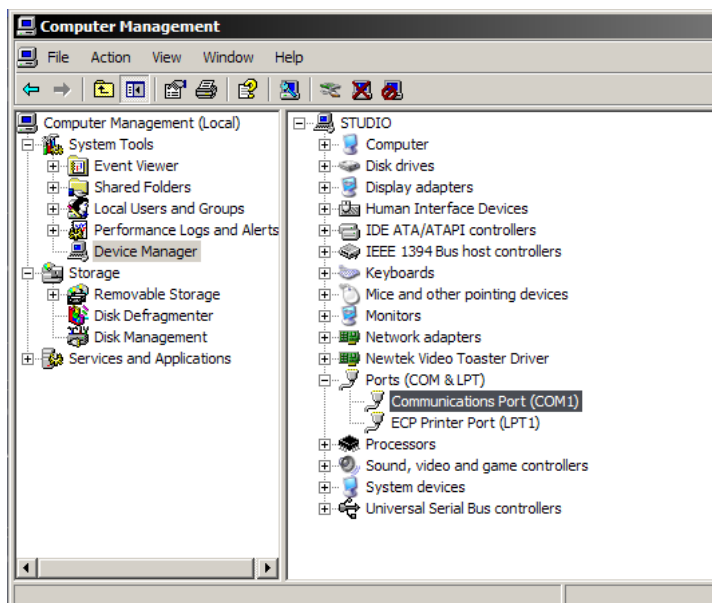

Figure 1 - Device Manager
5. Open the **Device Manager** (Figure 1) by clicking that entry in the left-hand pane of this window
Note - you should see your new connection listed, as in Figure 1. If it doesn't appear at first, try removing and re-inserting the USB cable connector – or you can use the “Scan for hardware changes” item in the Device Manager’s Action menu.